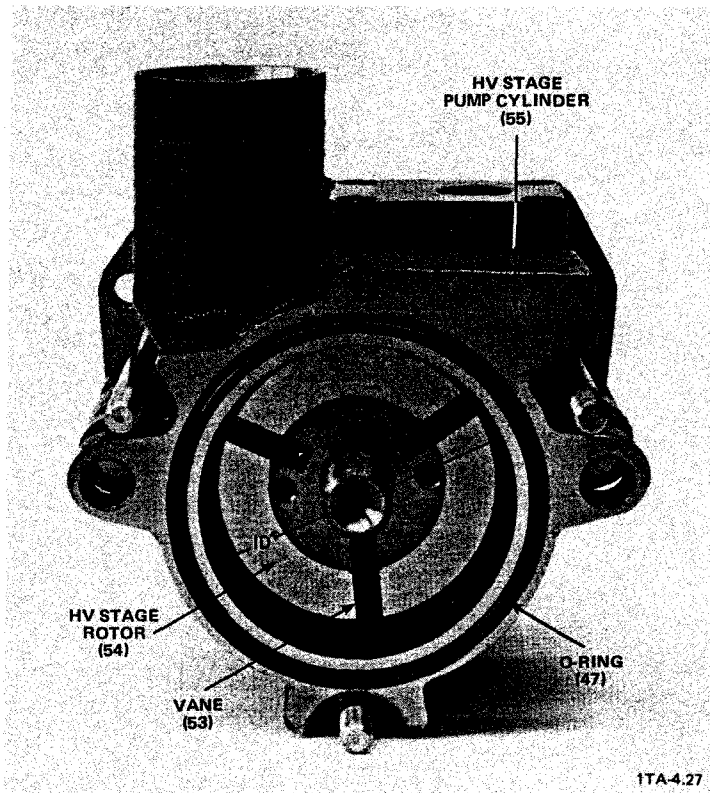

Figure 5-7. High Vacuum (HV) Stage Pump Cylinder (D2A Pump Model Shown)
REQUIRED ACTION: Using long nose pliers, remove the three vanes (53) from the high vacuum rotor (54). (See Figure 5-7).
- C-12 Remove the high vacuum stage pump cylinder (55) to expose the high vacuum rotor (54) and the center bearing (52). Remove the O-rings (47) from both sides of this pump cylinder (see Figure 5-7).
NOTE: Two threaded metric pulling holes are located in the outside end of the high vacuum rotor (54) for use with a puller (see Figure 5-7).